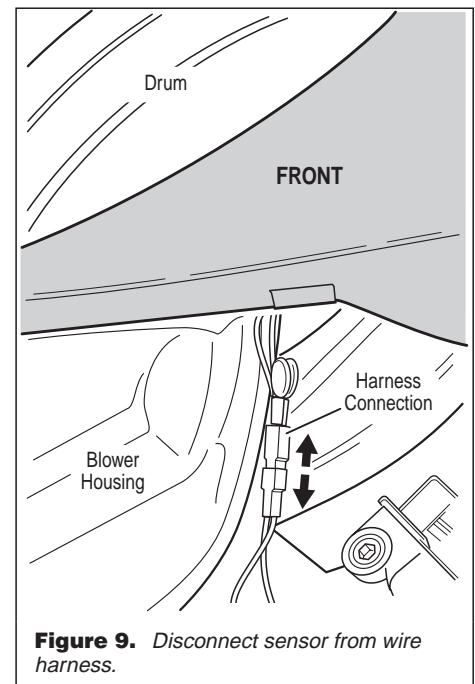

Figure 9. Disconnect sensor from wire harness.
- ➔ If not, unplug dryer or disconnect power. Access the moisture sensor wires by removing the toe panel (page 7, figure 11) and disconnecting the sensor wires from the harness (figure 9). Go to step 8.
6. Access the moisture sensor by removing the toe panel (see Removing the toe panel, page 7). Disconnect the sensor from the wire harness. See figure 9.